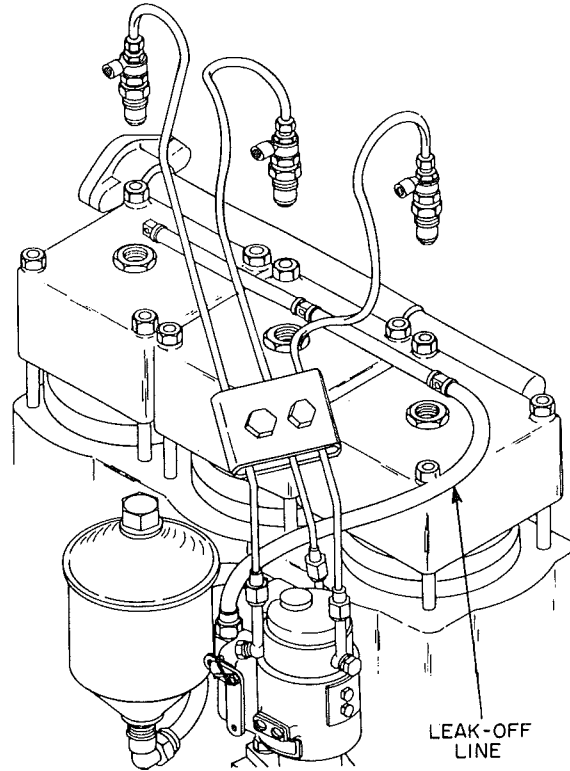

FIG. 8—OPEN-SPRAY NOZZLE TEST
d. Crank engine and watch fuel spray from each nozzle as shown in Fig. 8.